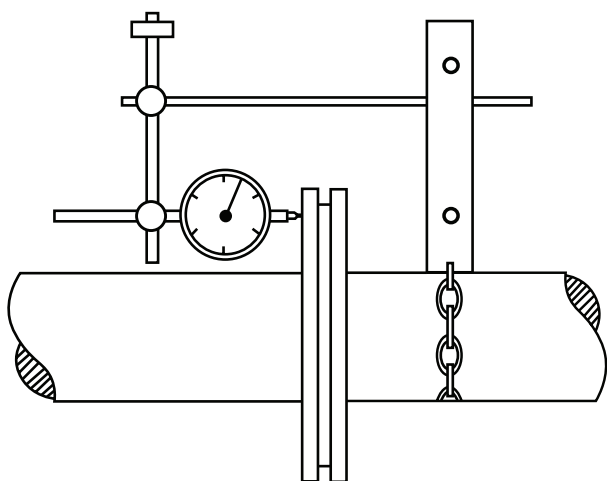

Figure 48 – Angular Misalignment Check with Dial Indicator
- Check angular misalignment with a dial indicator on **gear drive side**, as shown in **Figure 48**.
14. Check axial misalignment (hub separation) with the dial caliper on both the gear drive side and the motor side (See **Figure 48**).
15. Without rotating the shaft, measure the gap between the shaft flange and the hub flange on both ends. Take four (4) readings around the perimeter at 90° intervals.